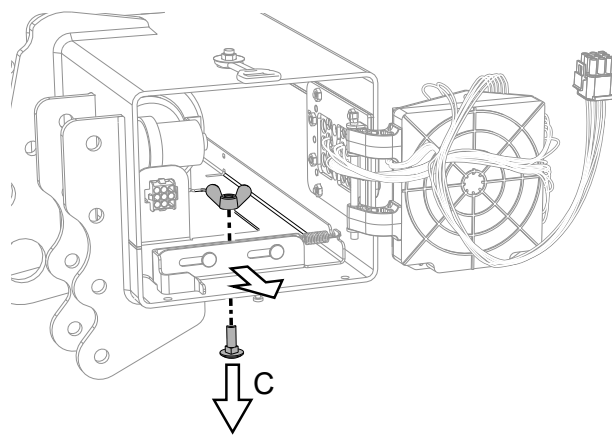
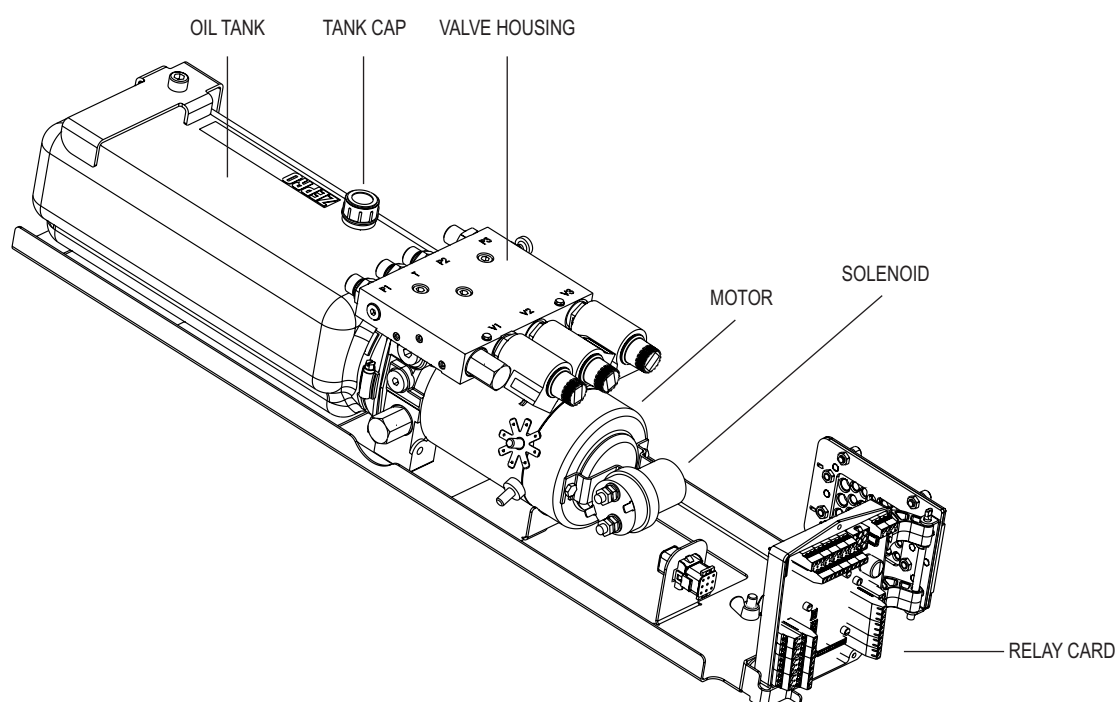

Figure 14. Releasing the hydraulic unit
Figure 16. Hydraulic unit and relay card
4. Release the hydraulic unit by unscrewing the wing nut and corresponding screw (C); see Figure 14 and pull out the hydraulic unit until the tank cap is accessible; see Figure 16.